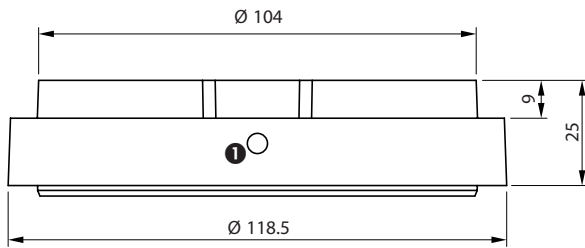

Fig. 5: Dimensional drawing
The detector can be protected against being removed by screwing a bolt into the counterbore ❶ (s. Fig. 5).